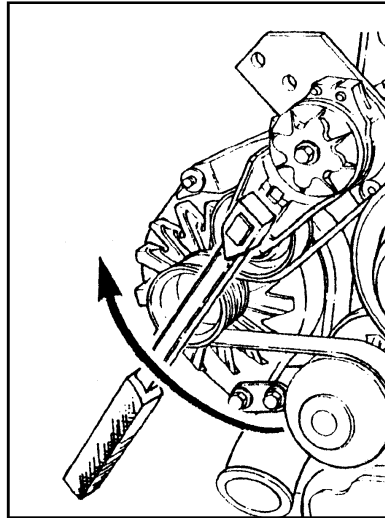
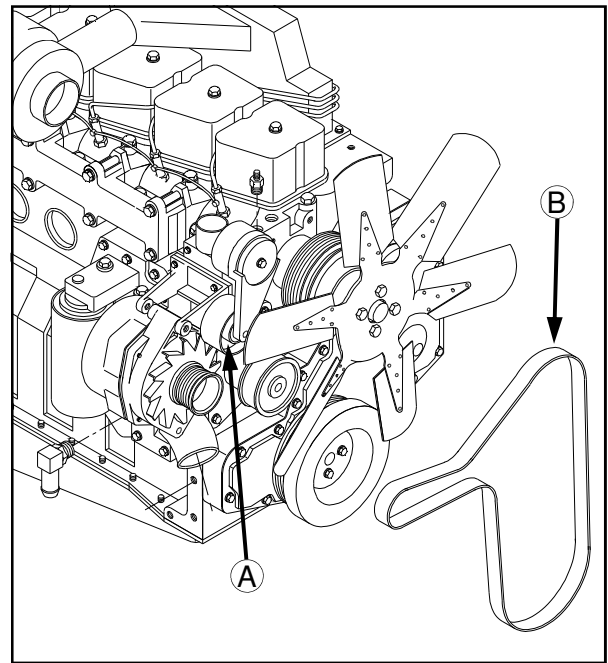

FIG 96-1
FIG 96-2
**REMOVAL**– Insert a 1/2 inch square ratchet drive (fig. 96-1) into the belt tensioner (fig. 96-2, item A) and lift upward to remove the belt (fig. 96-2, item B).